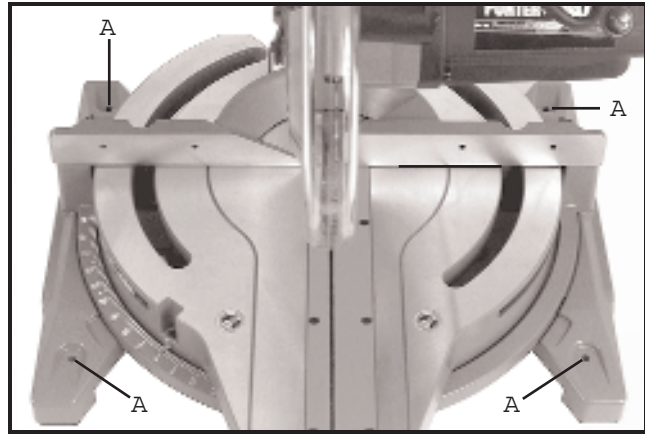

Fig. 36
Before operating the saw, make sure it is firmly mounted to a workbench or other supporting surface. Four holes (A) Fig. 36, are provided for fastening the saw to a supporting surface.